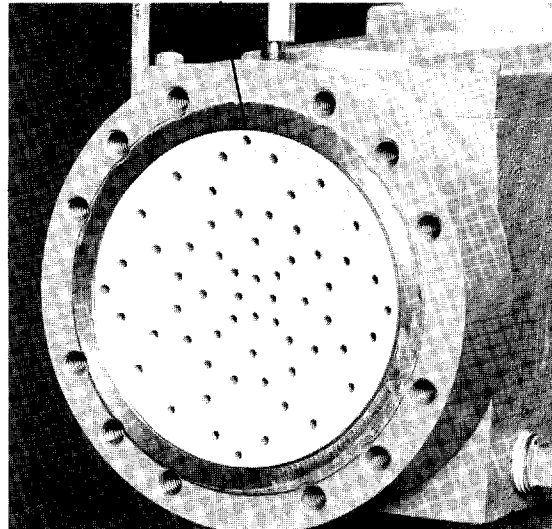

Fig. 16
13. Before mounting the reagent head make sure the pump head dish plate is seated in the head with the concave cavity facing the diaphragm, and one of the four holes closest to the edge of the dish plate is at the top of the pump head (Figure 16). This assures that any gases are vented out of the dish cavity.